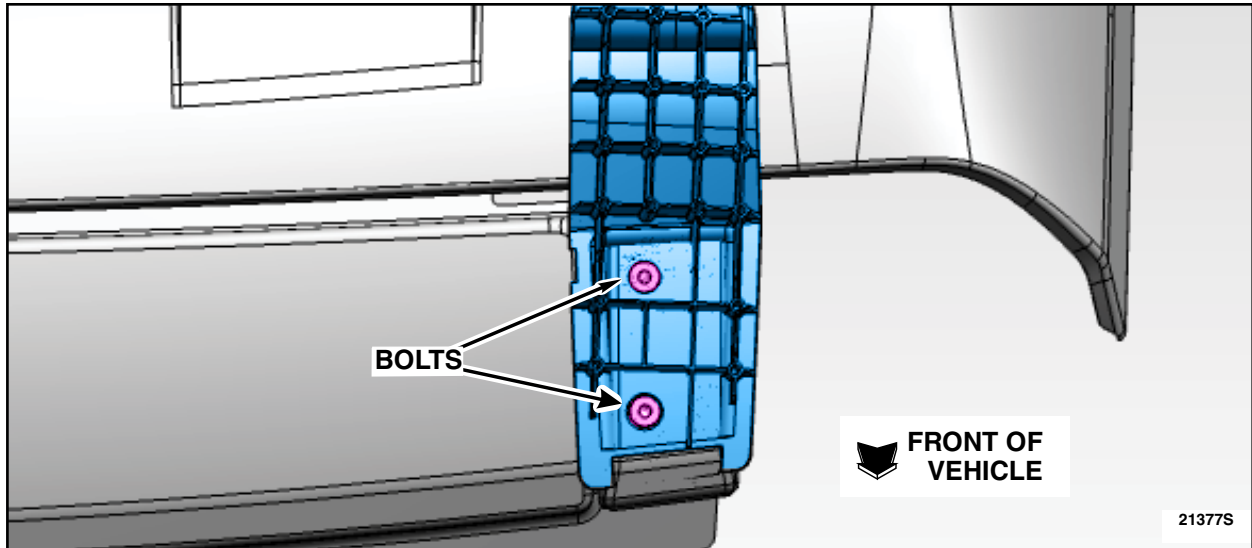

FIGURE 11
3. Remove the bolts from both sides of the front of the roof rack. See Figure 11.